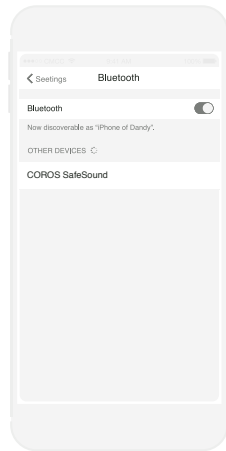

Fig. 8.
2. To pair your helmet with your phone, first power on the helmet. On your phone, turn Bluetooth to on and enter the pairing interface to select "COROS SafeSound" for pairing. (See Fig. 8)